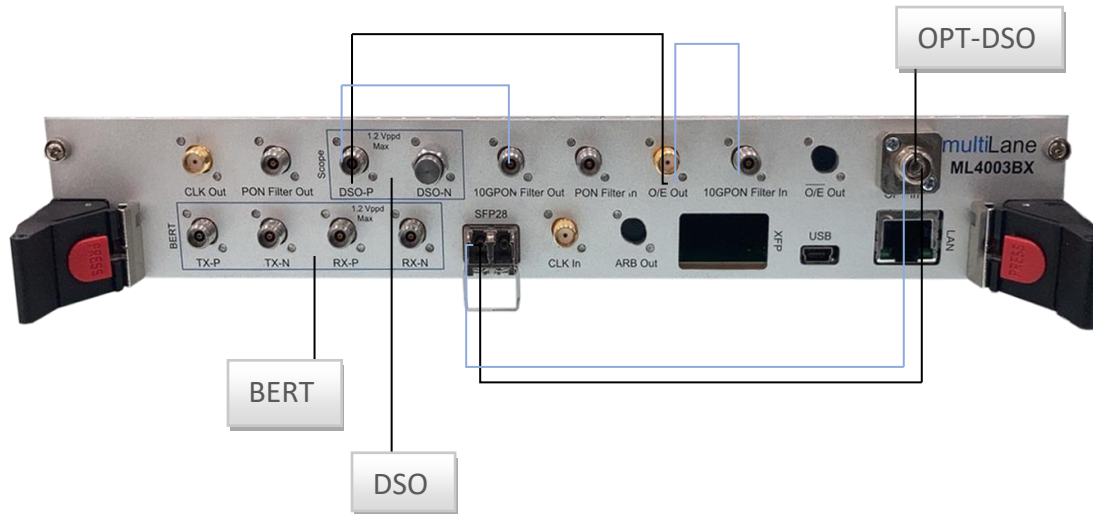

Figure 4 ML4003BX Faceplate
- Connect O/E out to DSO-P or DSO-N and terminate the unconnected port with a 50 ohms termination (*refer to the black lines in figure 4*)
- To use PON or 10GPON filters, connect O/E out to PON Filter in or 10GPON Filter in, then connect PON Filter out or 10GPON Filter out to DSO-P or DSO-N and terminate the unconnected port (*refer to the blue lines in figure4*)